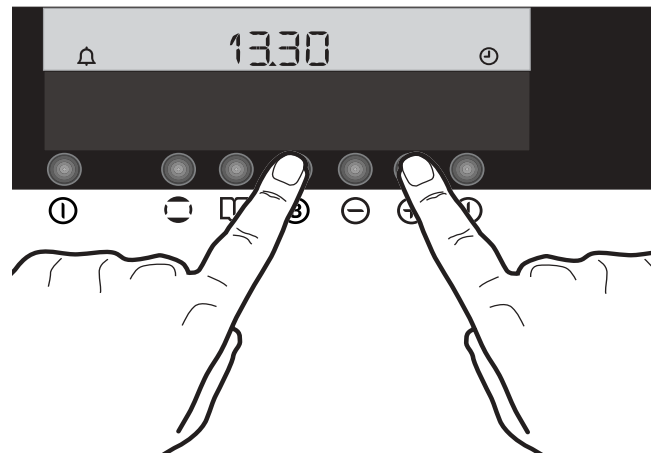

Fig. 20
1. Press button **(B)** and **(+)** at the same time for approximately 2 seconds (Fig. 20). The Electronic Control beeps once.